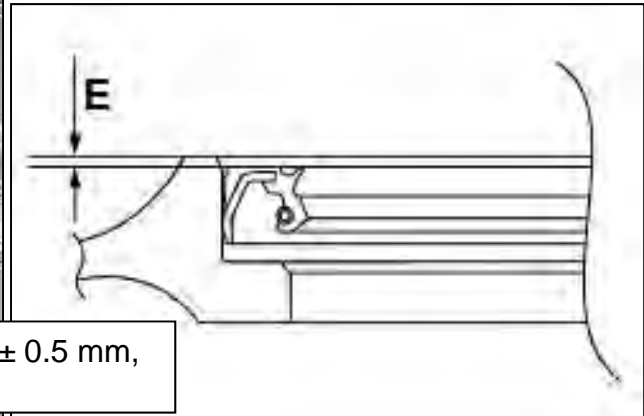

Figure 220
- Drive the converter housing oil seal evenly so that converter housing oil seal sits below the case by Dimension E as shown in Figure 220.